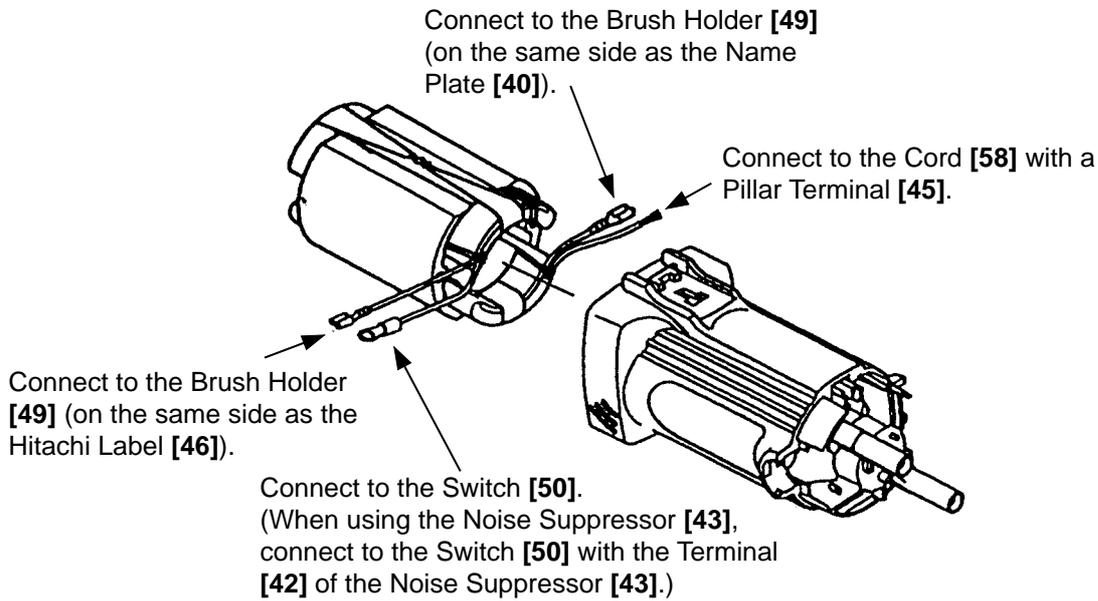

Fig. 9
(4) When installing the Stator [13] into the Housing Ass'y [39], insert it while taking care of the placement of the internal wires of the Stator [13] as indicated in Fig. 9.
Connect the four internal wires of Stator [13] with the parts indicated in Fig. 9.